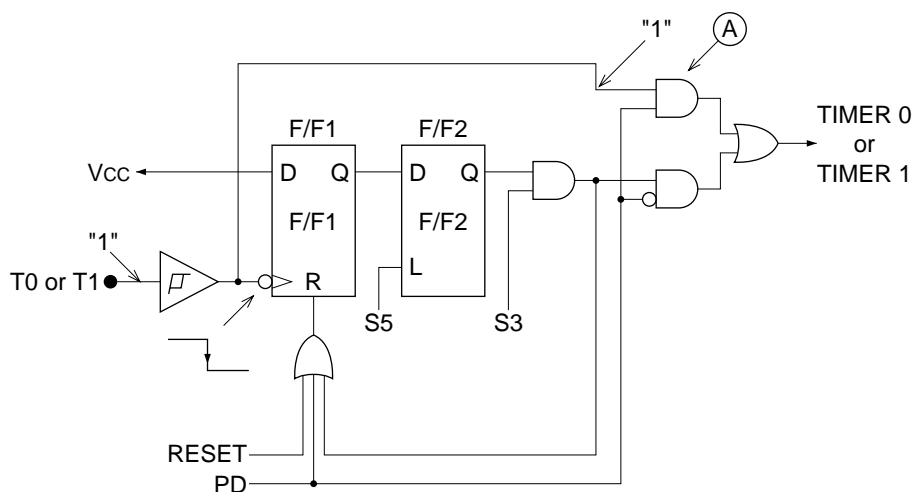

Figure 4-19 T0, T1 external clock detector circuit
When timers 0 and 1 are set to external clock mode, the external clock is taken in as shown in Figure 4-19 and the power down mode can be cancelled through the overflow of the timer. If the external interrupt occurs when the T0 or T1 pin goes to "1" level and the soft power down mode (PD) is cancelled, the gate output (A) changes from "1" level to "0" level and the counter is incremented by 1.
If the above conditions all are established, the software power down mode cannot be set. This is because the AND output, shown as (A) of Fig. 4-19, becomes "1" when the software power down mode is set and timer interrupt is generated.